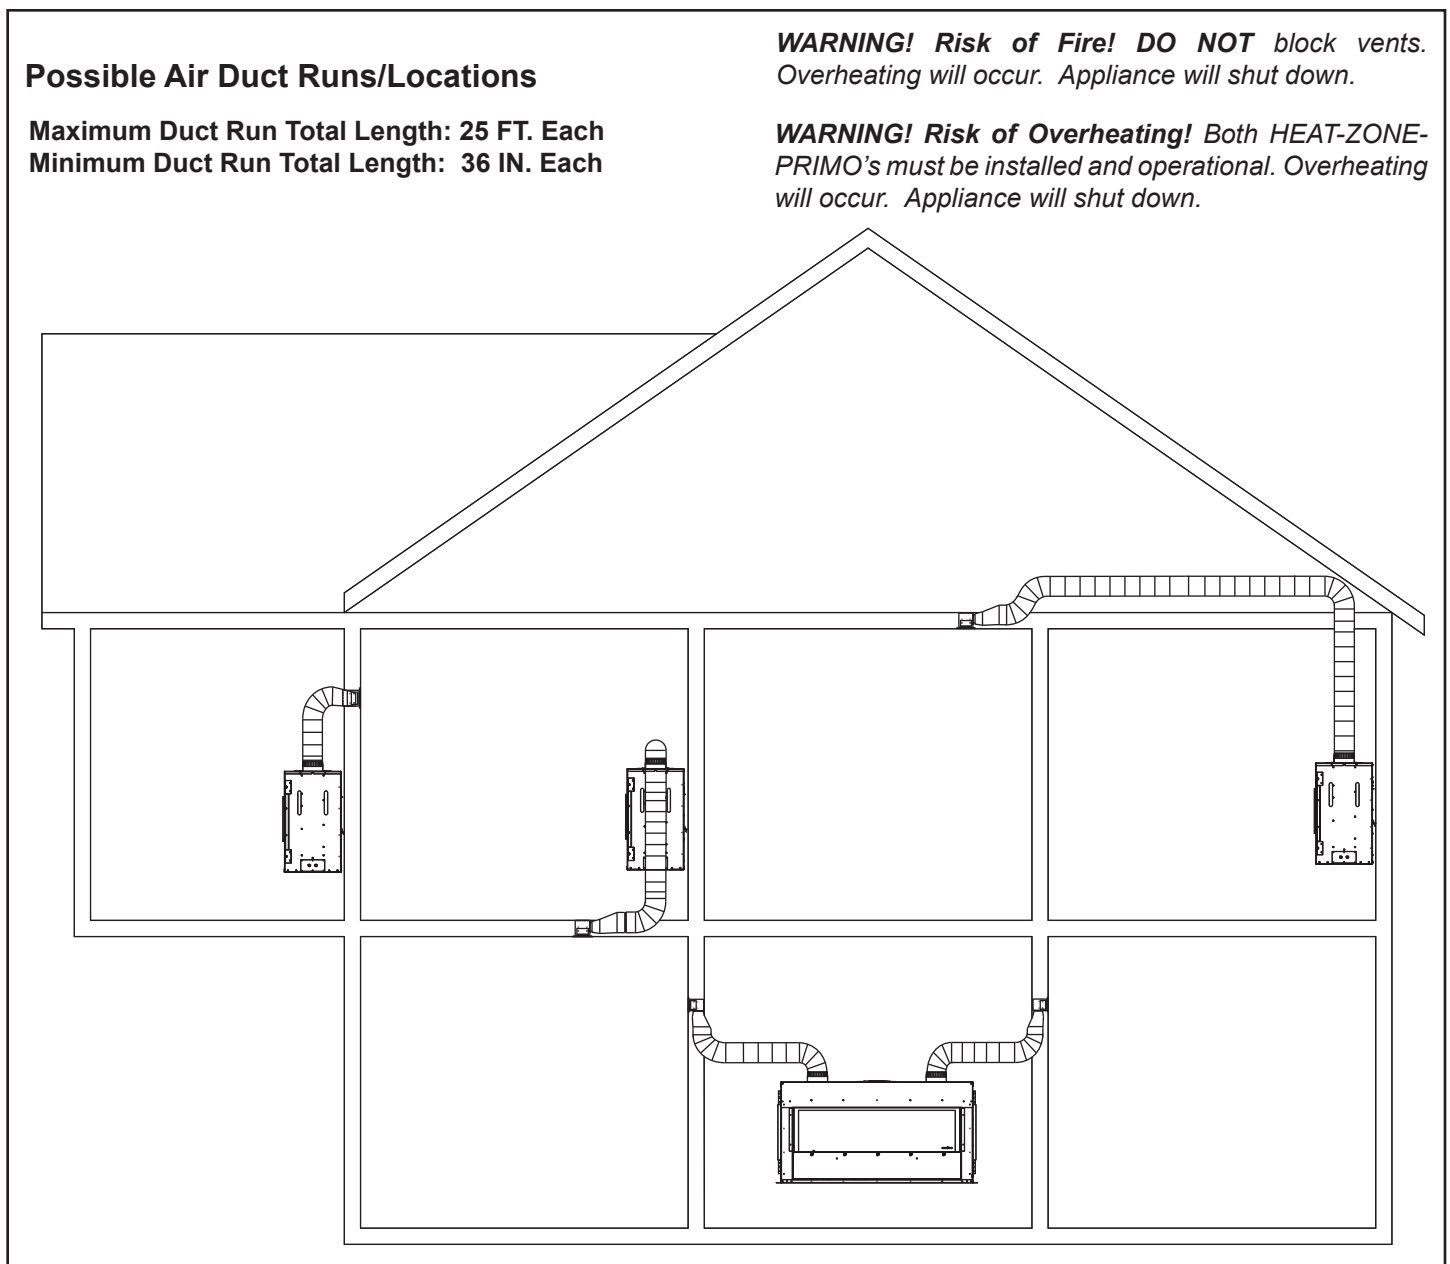

Figure 6.5 HEAT-ZONE-PRIMO Locations
- Mount fan housing in desired location. See Figures 6.5, 6.10 and 6.11.